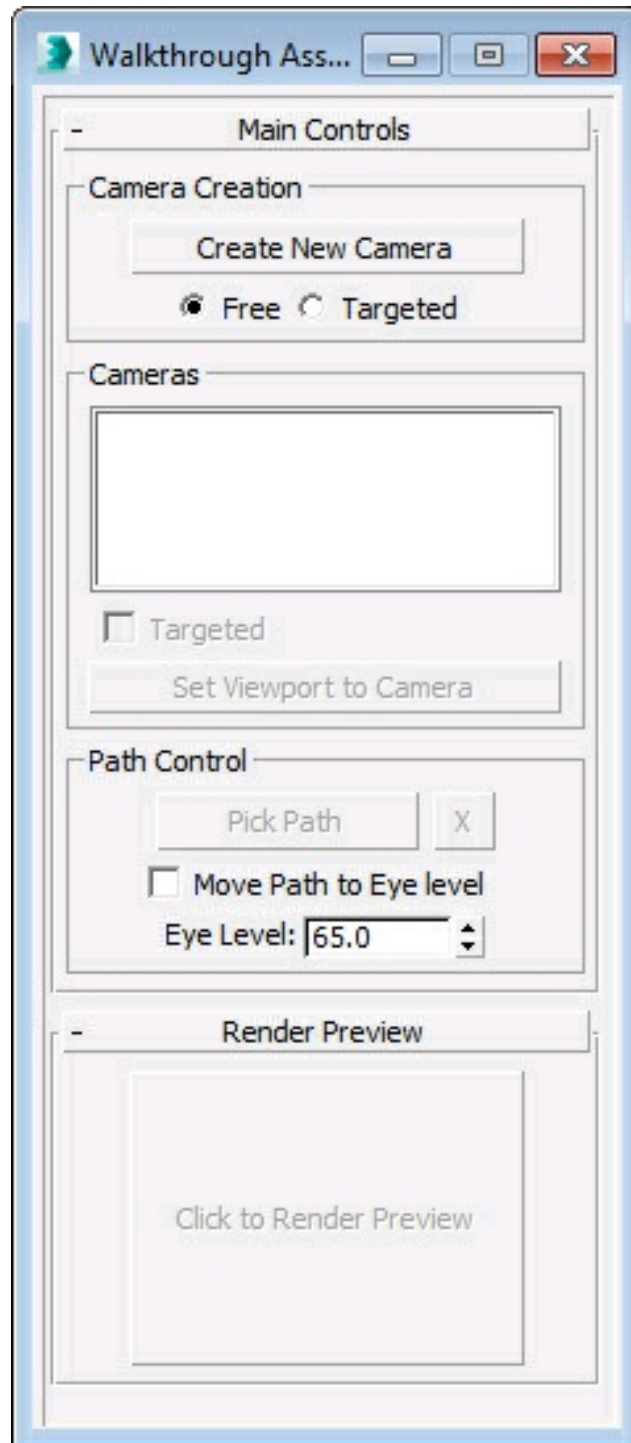

Figure 14-73 The Walkthrough Assistant dialog box
1. Choose **Animation > Walkthrough Assistant** from the menu bar; the **Walkthrough Assistant** dialog box is displayed, as shown in Figure 14-73. You can activate any viewport in this case.